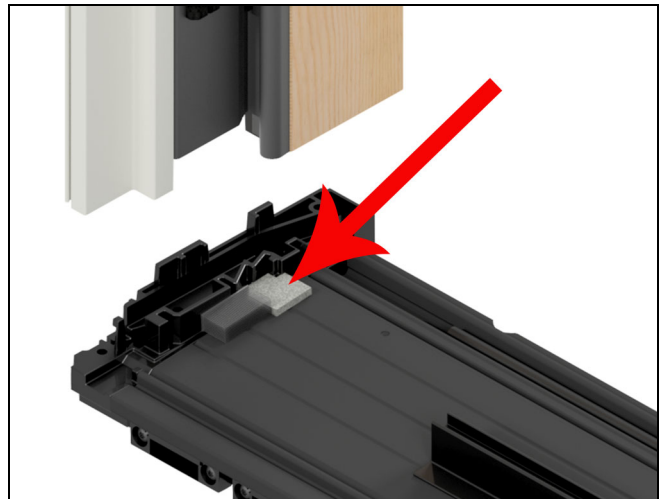
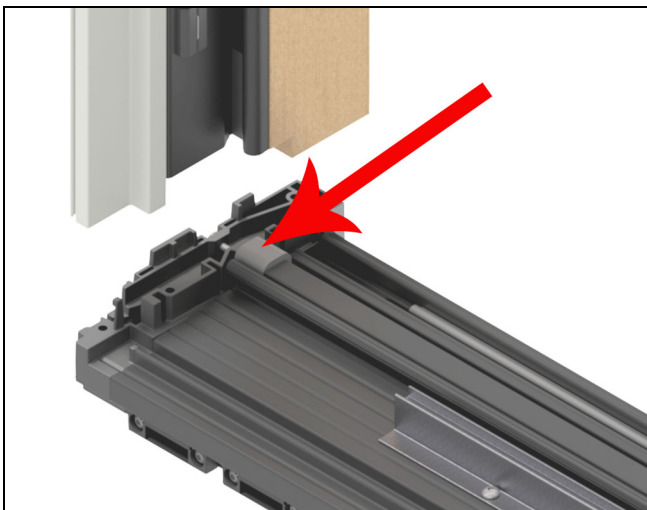

Figure 7 Accessibility sill shown
Figure 6 Performance sill shown
1. Align the side jamb sub assembly into sill key until fully seated. See Figure 6 (performance sill) and Figure 7 (accessibility sill).